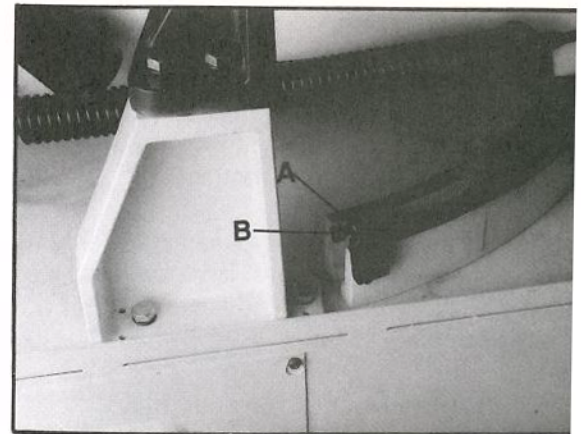

Fig. 14
5. Loosen the lock nut (A, Fig. 14).
6. Adjust the hex cap screw (B, Fig. 14) until the blade is at a 90° angle to the fixed vise jaw.
7. Tighten the lock nut (A, Fig. 14)